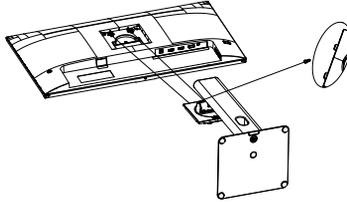
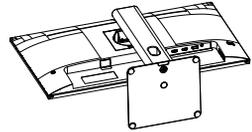

Figure 2
Figure 3
- ② Put the base into the hole of rear shell and hook up the backcover as shown in figure 2 and figure 3.